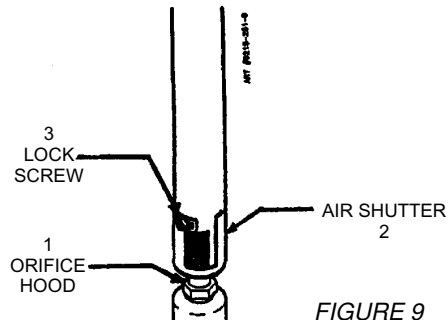

FIGURE 9
1. Yellow flame on burner - open burner air shutter to the widest opening that will not cause the flame to lift or blow off the burner when cold. (See #2 on figure 9.)
2. Distinct blue flame but lifting - close burner air shutter to the point where it will not cause the flame to lift or blow off the burner when cold. (See #2 on figure 9.)